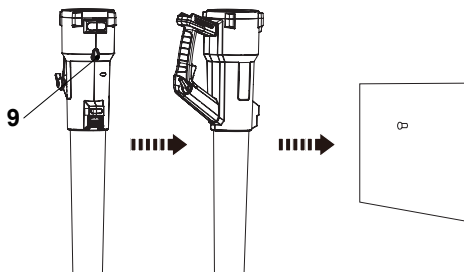

Fig. 9
4. The product has one hanging hole (9) for convenient storage. Install a strong enough screw on the wall to bear the weight of the product, then hang the product on the wall via hanging hole (9) (Fig. 9).